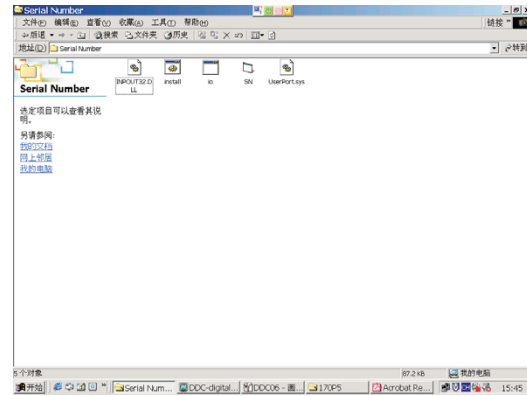

Fig.28
- 1. Unzip the serial number.zip to your computer, then open the folder as shown in Fig.28.
- 3. Set I2C bus (press the left-top of operating window) as shown in Fig.28, then press "SET" button.